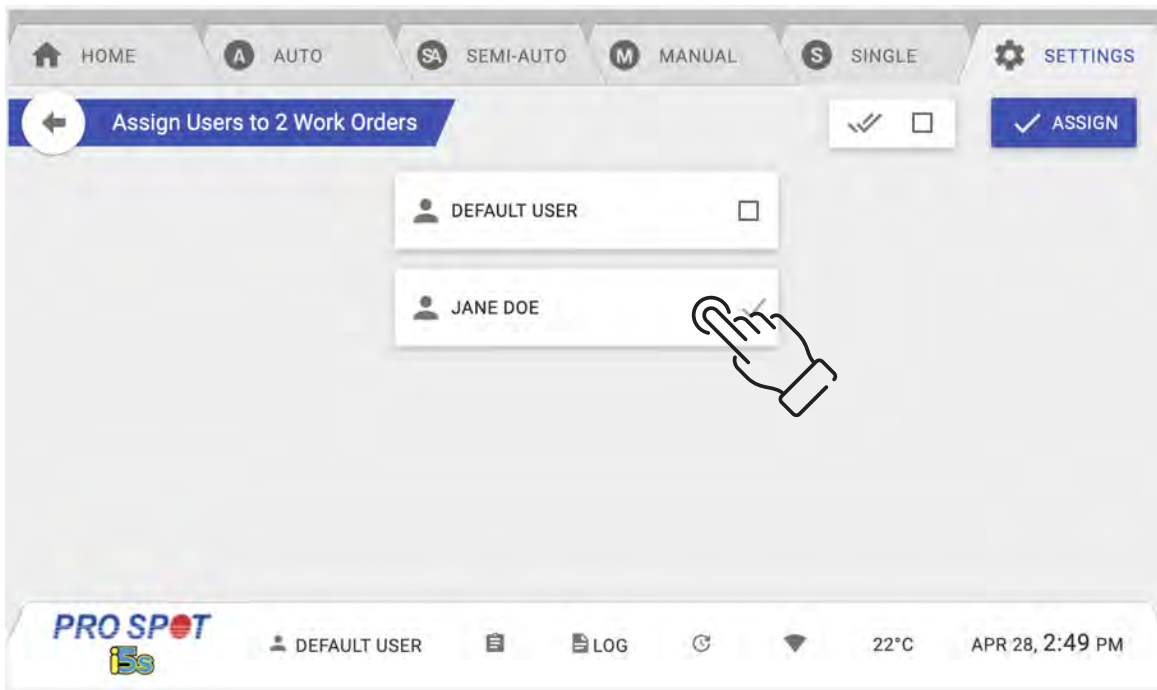

Figure 4.26
4. From the Users List, select the User you wish to assign the work order to (Figure 4.26).